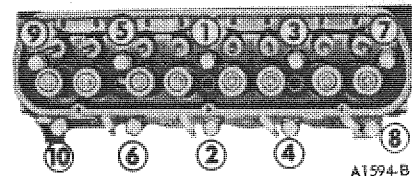

Fig. 49 Cylinder Head Bolt Tightening Sequence
3. The cylinder head bolts are tightened in three progressive steps. Tighten all the bolts in sequence (Figure 49) to specifications. When cylinder head bolts have been tightened following this procedure, it is not necessary to retighten the bolts after extended operation. However, the bolts may be checked and retightened if desired.